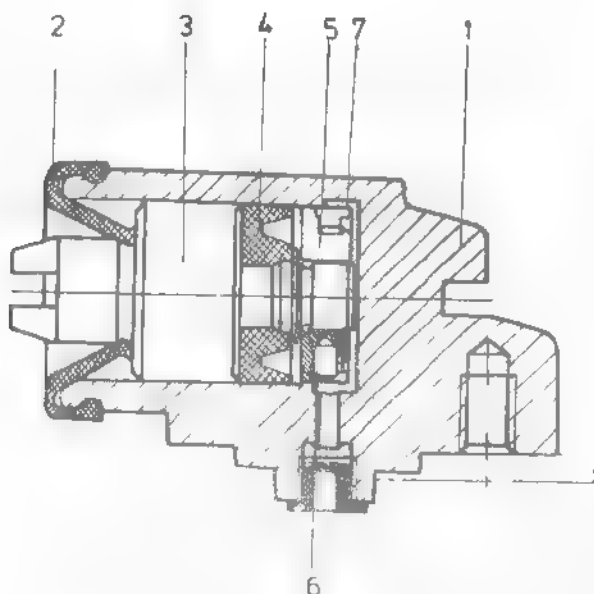

Fig. 2. 44. FRONT WHEEL BRAKE CYLINDER.
- Going on, perform the successive operation on a bench (see fig. 2. 44).
- Remove firstly brake cylinder boot (2) and then the piston with its rubber cup (5) and (4). Check the spring for oxidation traces; if oxidation traces or rust spots will be found, renew the spring.